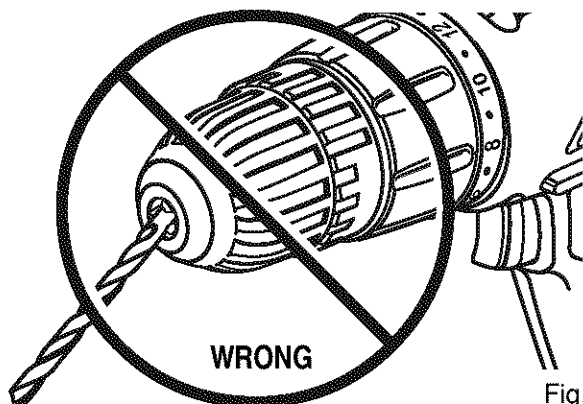

Fig. 8
- ⚠ **WARNING:** Make sure to insert drill bit straight into chuck jaws. Do not insert drill bit into chuck jaws at an angle then tighten, as shown in Figure 8. This could cause drill bit to be thrown from drill, resulting in possible serious personal injury or damage to the chuck.